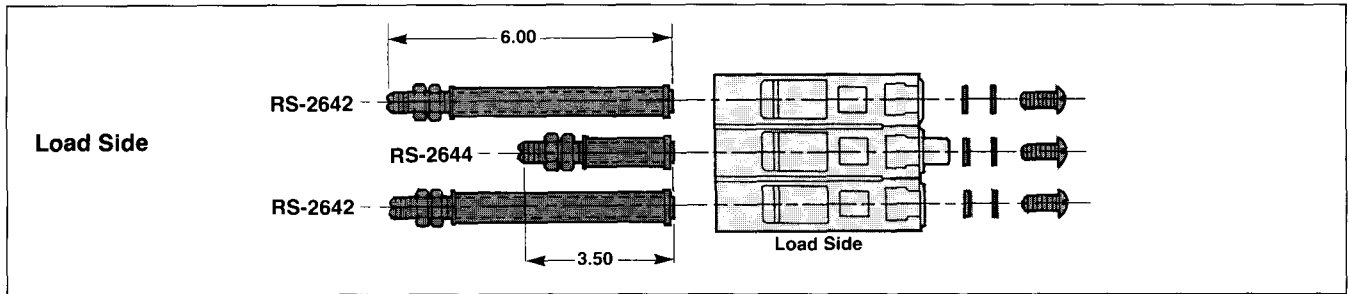

Figure 1
- B. Select proper rear connecting stud assembly as required for line terminals (Figure 3) and load terminals (Figure 1).